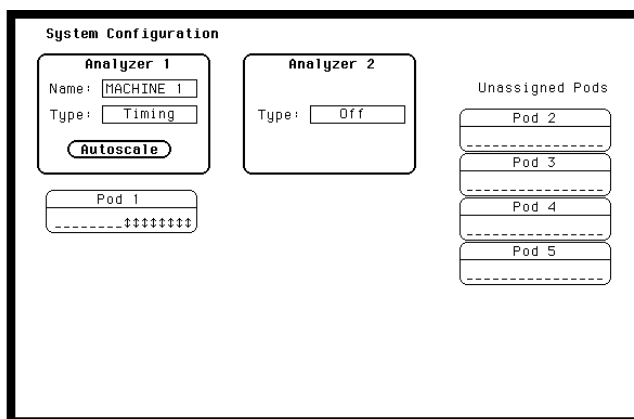

Figure 3-31. System Configuration for Glitch Test
- Assign the pod under test to **Analyzer 1** in **System Configuration** as in figure 3-31. Refer to steps a and b if unfamiliar with menus.
2. Assign the pod under test to **Analyzer 1** in **System Configuration** as in previous figure 3-31.